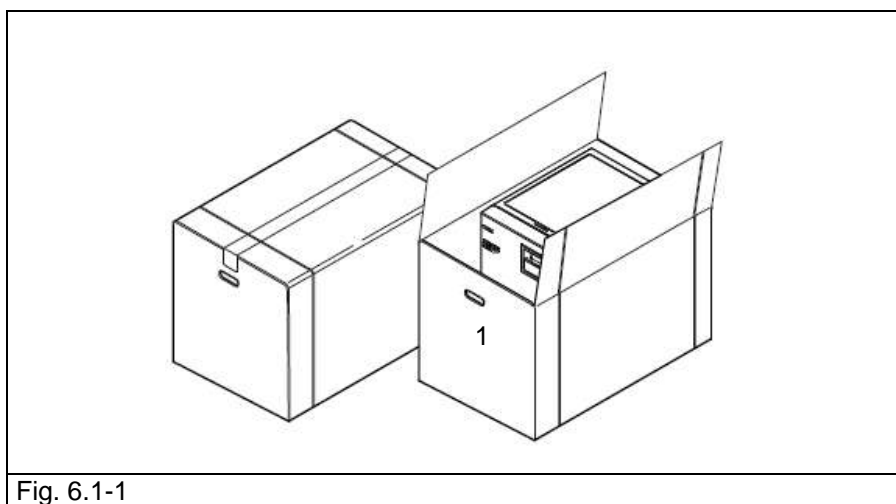

Fig. 6.1-1
The packaging and the equipment are fragile, handle with care. Transport as fragile. **THE HANDLES ON THE PACKAGING (1 of Fig. 6.1-1) MUST ONLY BE USED FOR VERTICAL LIFTING.** Keep in a dry and protected place. The packaging must be kept for the whole guarantee period.
- Remove staples closing the top of the cardboard packaging (Fig. 6.1-1).